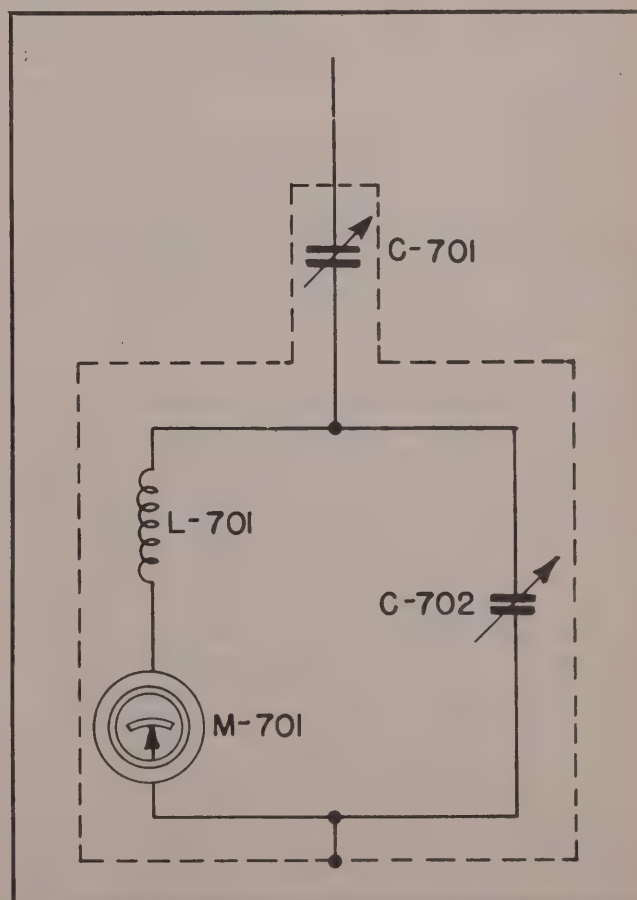

Figure 4-49. Voltmeter IS-176-B—Simplified Schematic Diagram
(1) This voltmeter is a radio-frequency voltmeter which measures relative (not absolute) voltages between any point and ground without disturbing conditions of the point. The relative voltages are indicated by a radio-frequency milliammeter mounted on the front panel of the case.
(2) The circuit used (see figure 4-49) consists of a short coaxial transmission line, a resonant circuit using capacitance and inductance, and a thermocouple type radio-frequency milliammeter. The tip of the instrument (see figure 6-19) is held against the line on
which the voltage is to be measured. Thus, this voltage is applied between the probe tip and the case of the voltmeter, the case being at ground potential for radio-frequency currents. A part of the voltage is dropped across capacitor C-701 between the probe tip and the coaxial line. This capacitor is made up of the head of the screw which forms the tip and the head of the screw at the input to the coaxial line in the tube of the voltmeter. This voltage finally appears across the tuned circuit connected to the output of the transmission line. The tuned circuit is made up of variable capacitor C-702, inductor L-701, and meter M-701 (see figure 4-49). The radio-frequency milliammeter M-701 reads the circulating current in the resonant circuit. This current is proportional to the voltage impressed across the circuit and is therefore proportional to the voltage on the line under test.